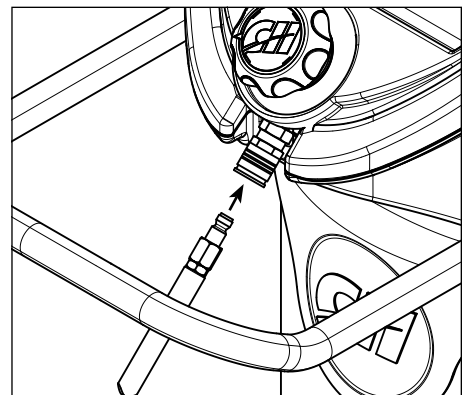

Figure 17 - Attach hose to coupler
2. Connect separate hose to the coupler located below pressure regulator by pulling the sleeve on coupler all of the way back, then push hose into coupler and release sleeve (See Figure 17).